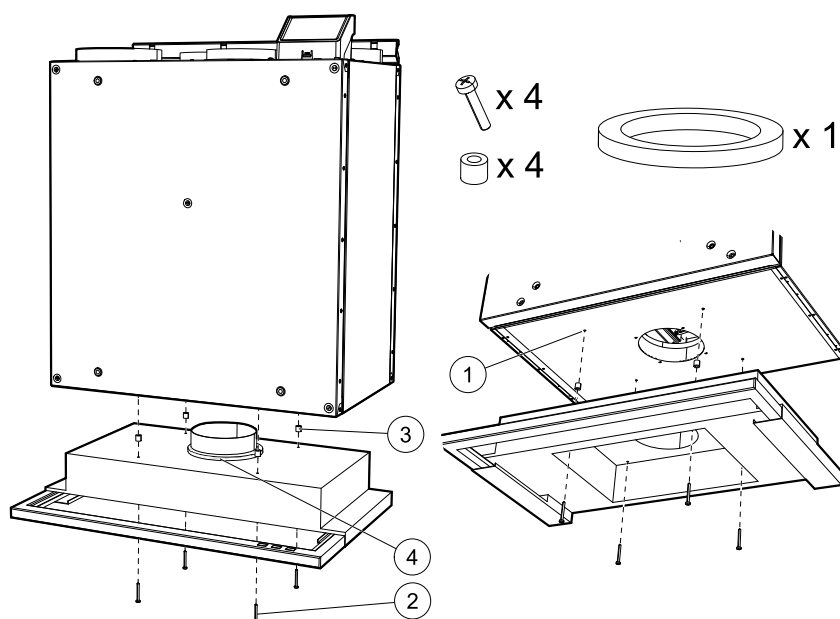

Fig. 12 Attaching the cooker hood directly to the unit
Insert included screws (figure 12, pos. 2) into the cooker hood holes, place included plastic spacers on the each protruding screw to prevent over-tightening (figure 12, pos. 3).
2. Place a circular insulation on the cooker hood connector to prevent air leaking (figure 12, pos. 4).
Screw the cooker hood directly to the bottom of the unit using prepared holes (figure 12, pos. 1).